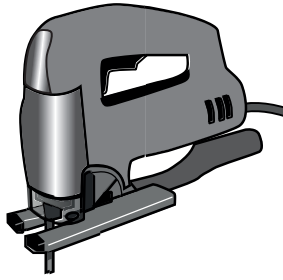

Fig. 4
- 5 Fig. 4 shows a saw.
- (a) Name the saw shown in Fig. 4.
- (b) Give **one** advantage of using the saw in Fig. 4.